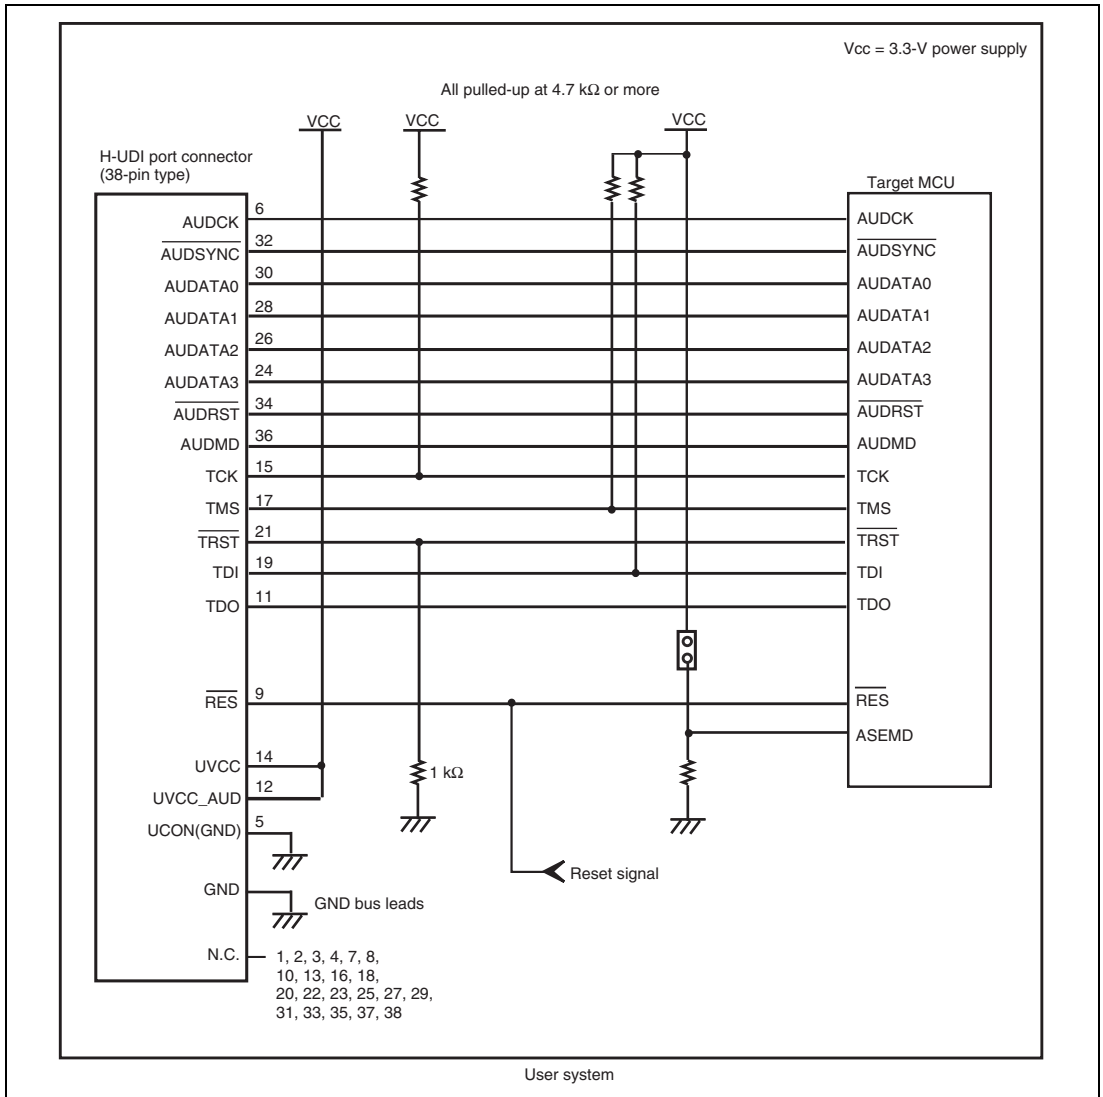

Figure 1.7 Recommended Circuit for Connection between the H-UDI Port Connector and MCU when the Emulator is in Use (38-Pin Type)
Figure 1.7 shows a recommended circuit for connection between the H-UDI and AUD port connectors (38 pins) and the MCU when the emulator is in use.
- (1) When the emulator is used: ASEMD = 1
- (2) When the emulator is not used: ASEMD = 0Figure 1.7 shows an example of circuits that allow the ASEMD pin to be changed by switches, etc.
7. The resistance value shown in figure 1.7 is for reference.
When the circuit is connected as shown in figure 1.7, the switches of the emulator are set as SW2 = 1 and SW3 = 1. For details, refer to section 3.8, Setting the DIP Switches, in the SuperH™ Family E10A-USB Emulator User's Manual.